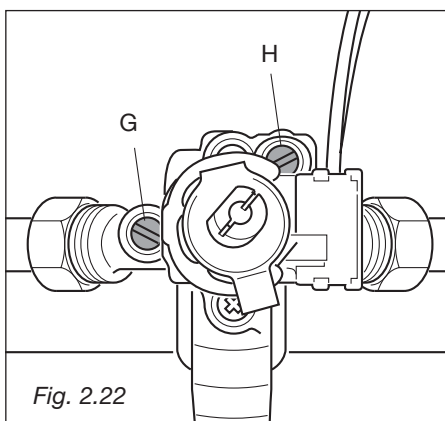

Fig. 2.22
- Using a screwdriver turn the screw **H** until the correct setting is obtained (fig. 2.22).
- Using a screwdriver turn the screw **G** until the correct setting is obtained (fig. 2.22).